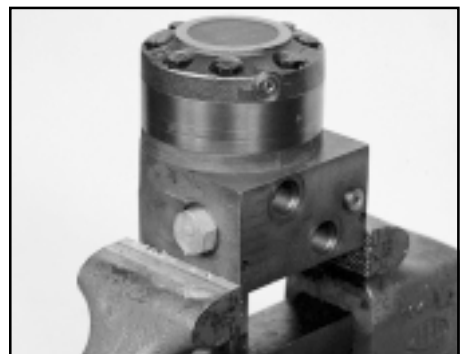

Figure D9
7. Turn motor assembly upside down and clamp center block (9) in vise. SEE FIGURE D9.